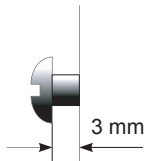

Figure 3
- Then use a suitable screwdriver to screw in the two screws. Make sure that there is a distance of approx. 3mm between the lower side of the screw head and the wall. See figure 3.